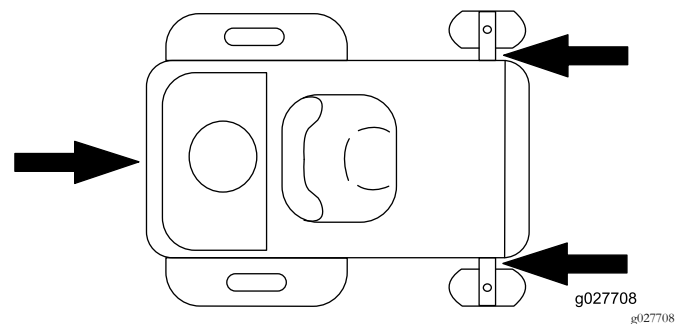

Figure 30
5. Tie down the machine near the front caster wheels and the rear bumper (Figure 30).